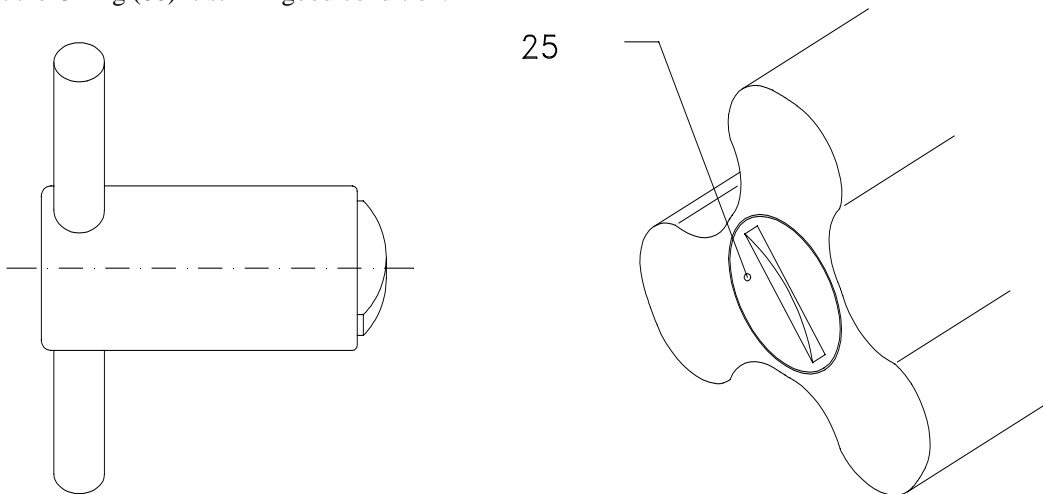
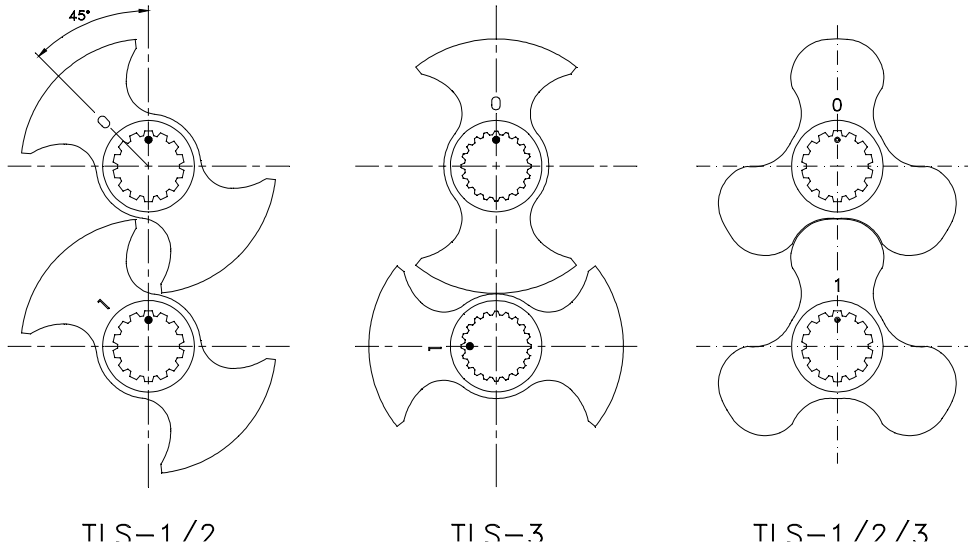

Figure 8.1: Wrench
Figure 8.3
- Remove the lobe screws (25) using a wrench, as shown in figure 8.1. These screws are threaded to the right. Wooden or nylon blocks can be placed between the lobes to stop them from rotation (blocks position: one to the left in front of the top lobe screw and the other to the right in front of the lower lobe screw).
- Check that the O-ring (80) is still in good condition.
- Slide the lobes onto the shafts as far as the shaft sleeve. Observe the markings (0 - 1 and ●); see figure 8.3.
- Check that the O-rings (80) of the lobe screws (25) are still in a good condition and that they are correctly positioned in the groove.
- Fit the lobes with the screws (25) and the washers (35). Tighten the screws with a wrench as shown in figure 8.1. A wooden or nylon block can be placed between the lobes to avoid that they rotate simultaneously.
- Slide the lobes onto the shafts as shown in figure 8.3. Press the lobes against the shaft sleeve.